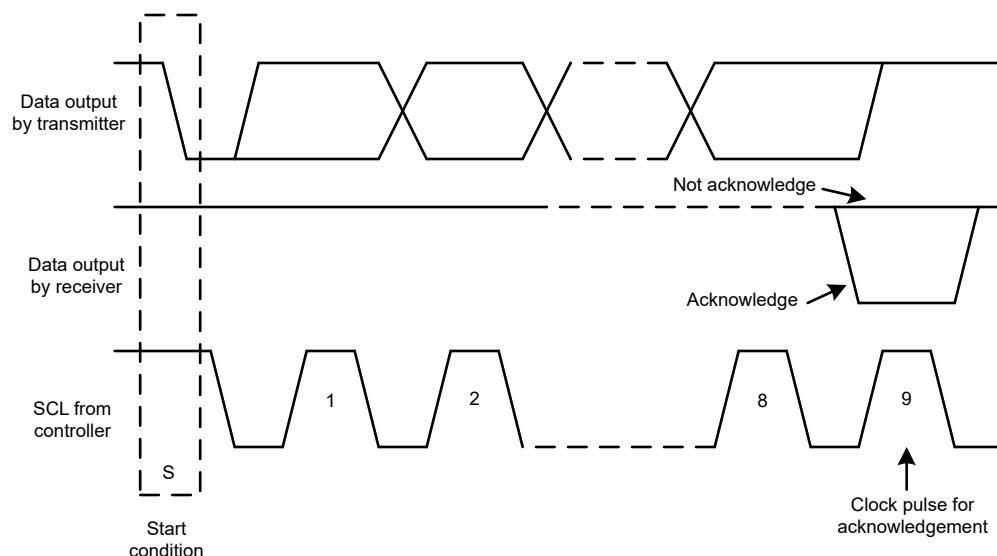
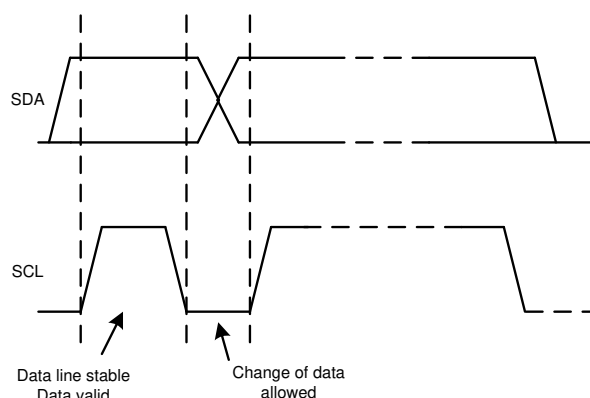

Figure 6-23. Acknowledge and Not Acknowledge on the I²C Bus
Figure 6-25. Bit Transfer on the I²C Bus
Other than specific timing signals, the I²C interface works with serial bytes. At the end of each byte, a ninth clock cycle generates and detects an acknowledge signal. An acknowledge is when the SDA line is pulled low during the high period of the ninth clock cycle. A not-acknowledge is when the SDA line is left high during the high period of the ninth clock cycle, as shown in Figure 6-23.
2. The controller then generates the SCL pulses, and transmits the 7-bit address and the read/write direction bit (R/W) on the SDA line. During all transmissions, the controller makes sure that data are valid. A valid data condition requires the SDA line to be stable during the entire high period of the clock pulse, as shown in Figure 6-25. All devices recognize the address sent by the controller and compare the address to the respective internal fixed address. Only the target device with a matching address generates an acknowledge by pulling the SDA line low during the entire high period of the 9th SCL cycle, as shown in Figure 6-23. When the controller detects this acknowledge, the communication link with a target has been established.